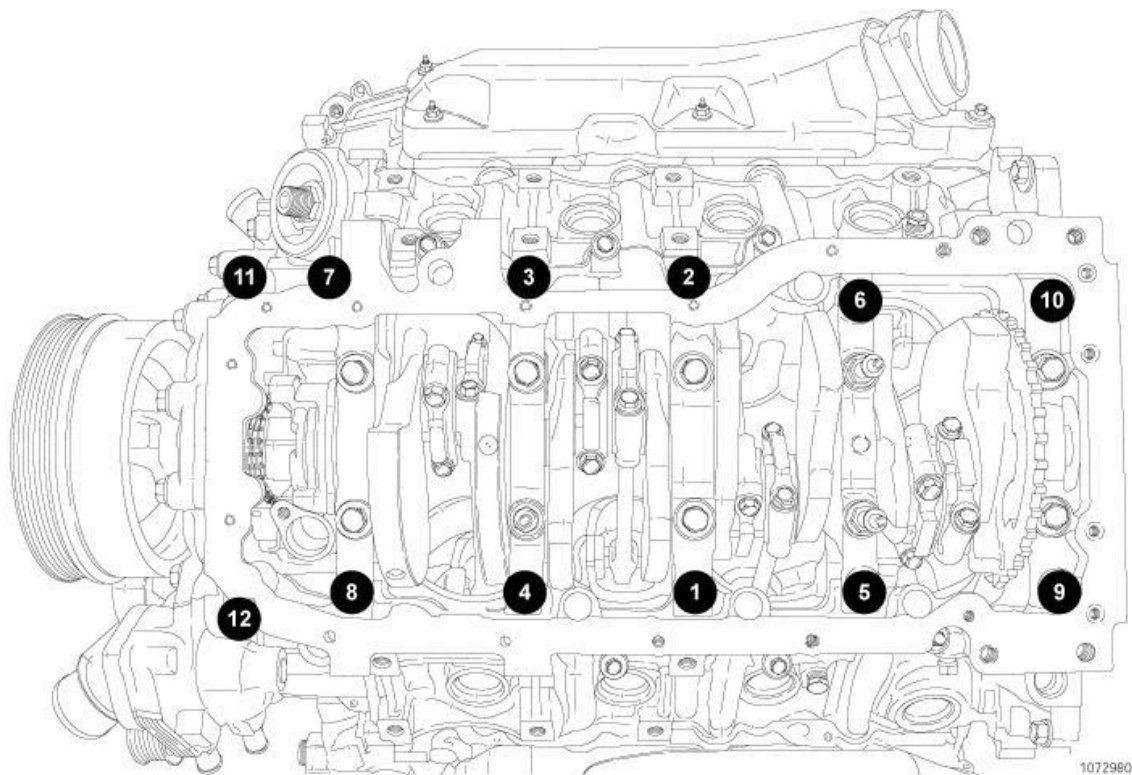

Fig. 182: Tightening Bedplate Bolts (2 Of 4)
8. Tighten bolts to 54 N.m (40 ft. lbs.) in the sequence shown in **Fig. 182**.